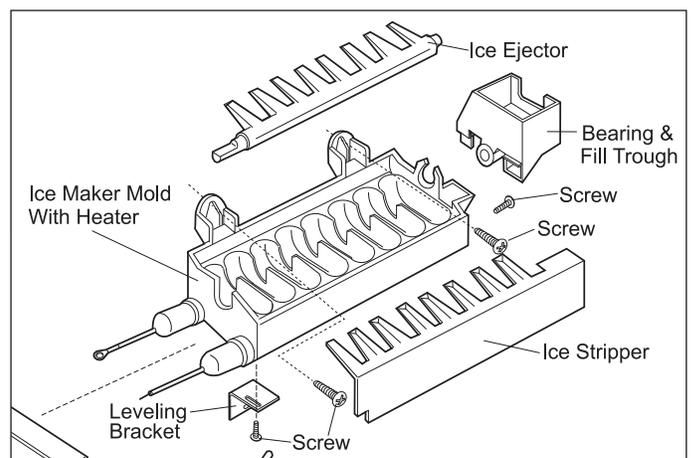

Figure 6-98.
3. Push fill trough retaining tab back away from mold. (See Figure 6-98)